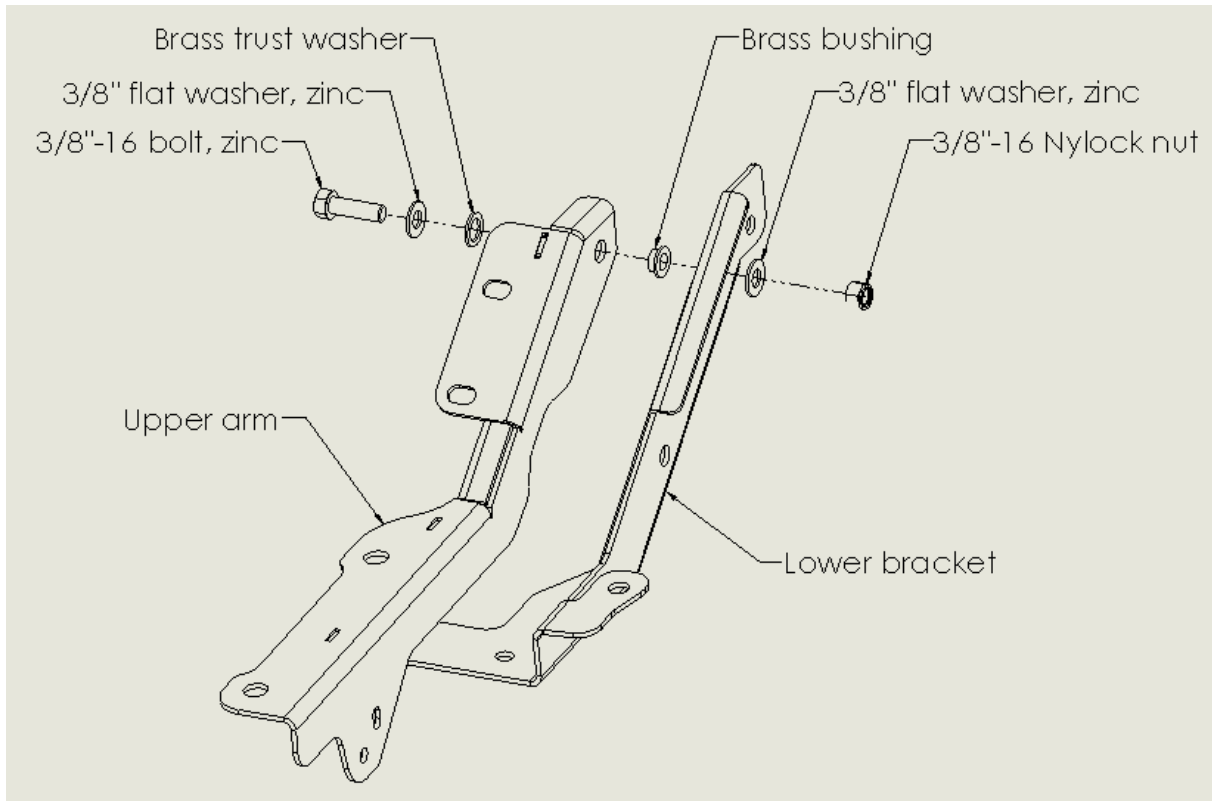

Fig 6
- h. Press install the brass bushing into the upper hole in the Upper arm as shown in **Fig 6**.
- i. Insert the 3/8"-16 bolt with washer and thrust washer into the brass bushing as shown in **Fig 6** forming the upper arm sub assembly.